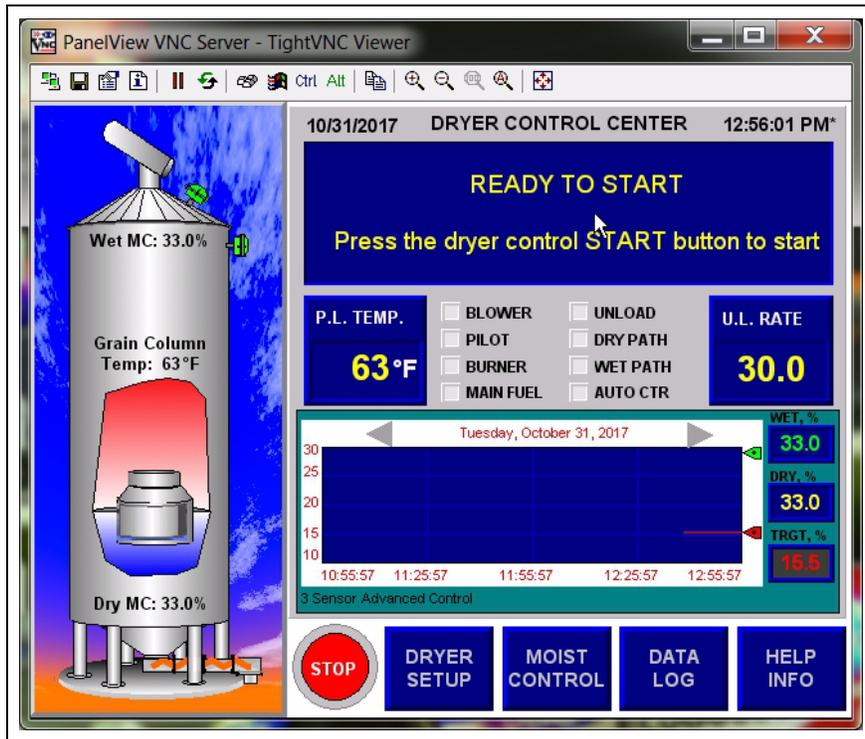

Figure 3A
1. Press the “Dryer Setup” on the Dryer Control screen. (See Figure 3A.)